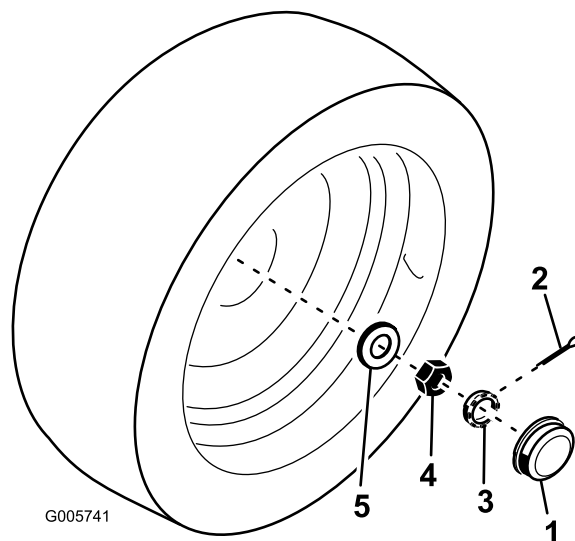

Figure 55
2. Remove dust cap from end of wheel spindle. Also remove cotter pin securing retainer (Figure 55).
3. Tighten the jam nut (Figure 55) to approximately 75–100 in–lbs using a hand wrench.